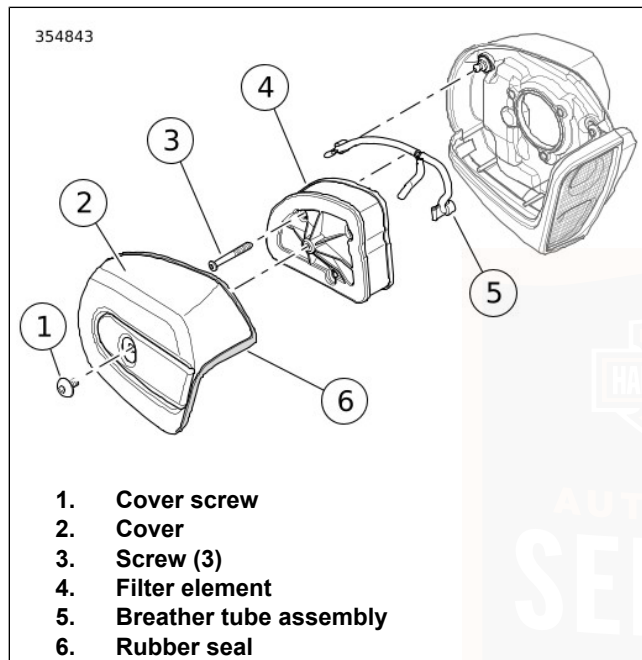

Figure 82. Air Cleaner Assembly
1. See Figure 82. Remove screw (1) and air cleaner cover (2) with rubber seal (6).
2. Remove three screws (3).
3. Remove filter element (4) pulling breather tube from hole on inboard side.
4. Remove breather tube (5) from breather bolts.
1. See Figure 82. Install breather tube (5) onto breather bolts.
2. Install filter element (4) while pushing breather tube into element.
3. Install screws (3). Tighten screws to 4.5–6.8 N·m (40–60 in-lbs).
4. Verify that rubber seal (6) is not damaged and is properly seated around perimeter of air cleaner cover.
5. Place air cleaner cover onto backplate. Apply a drop of **LOCTITE 243 MEDIUM STRENGTH THREADLOCKER AND SEALANT** (blue) to the threads of screw (1). Install screw. Tighten to 4.1–6.8 N·m (36–60 **in-lbs**).